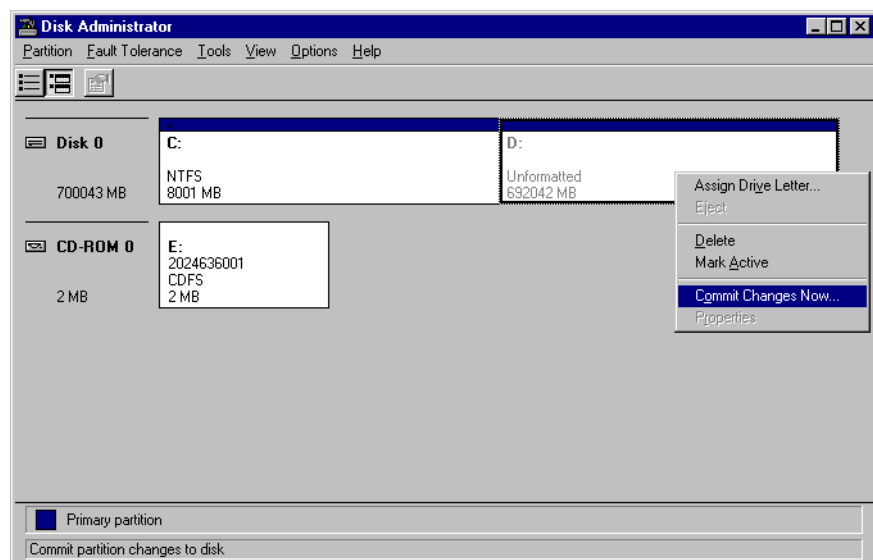

Figure 005
19. Right-click *Unformatted Space* and click *Commit Changes Now...*(see Figure 005).